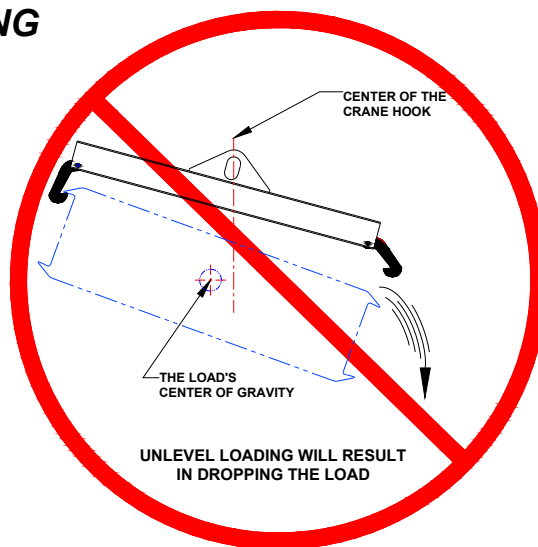

Figure 3
7. **See Figure 3**, the Lifting Beam is not level/horizontal and the Chlorine Cylinder Flange is resting on the tip of **ONLY** one hook arm, improper lifting.